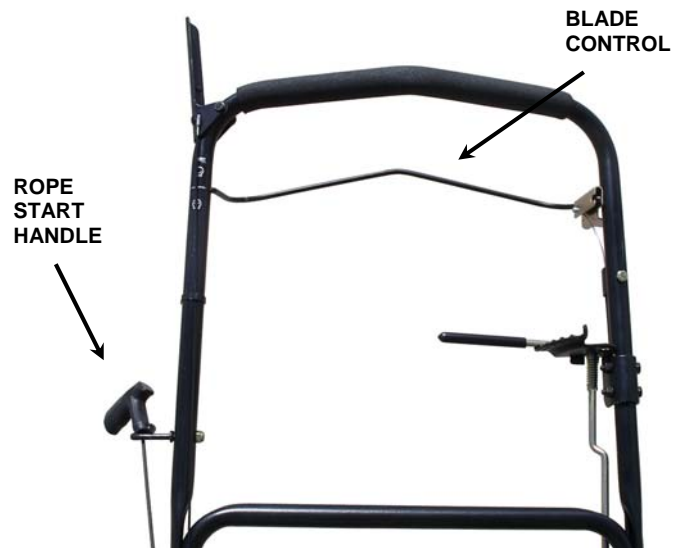

FIGURE 2.4
3. Pull blade control against handle. See Figure 2.4.